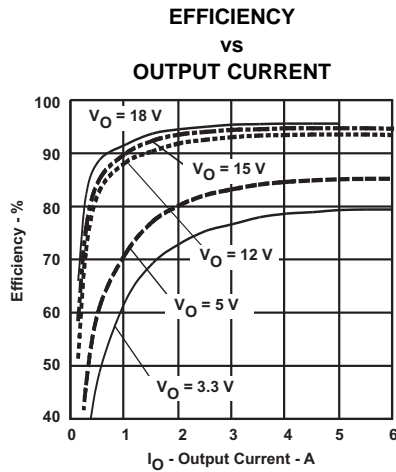
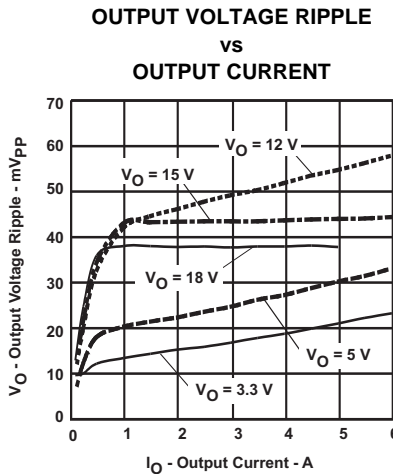
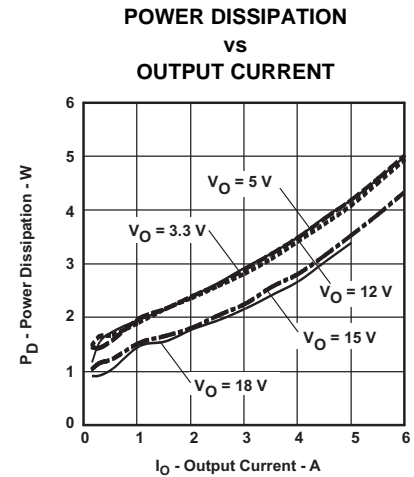

Figure 11.
Figure 12.
Figure 13.
- (1) The electrical characteristic data has been developed from actual products tested at 25°C. This data is considered typical for the converter. Applies to Figure 11, Figure 12, and Figure 13.